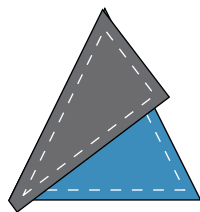

Fig. 2
2. Place (1) Fabric F Template 1 triangle on top of (1) Fabric D Template 2 triangle, right sides together, aligning the left sides (Fig. 2). Sew the (2) triangles together along the left side. Press the smaller triangle open.